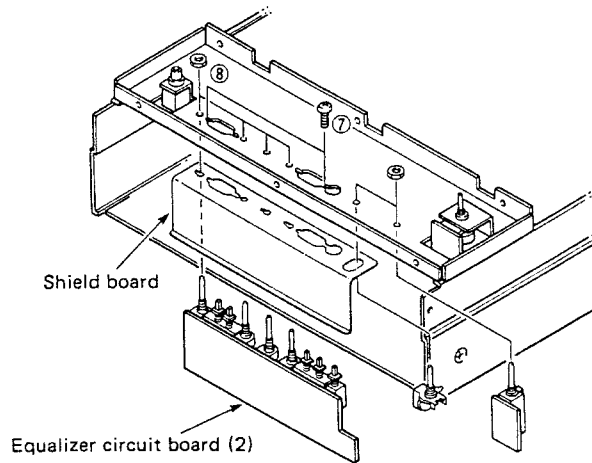

Fig. 3
- c. Remove 2 screws (⑦) and 6 hexagonal nuts (⑧) in fig. 3 and then remove the equalizer circuit board (2).